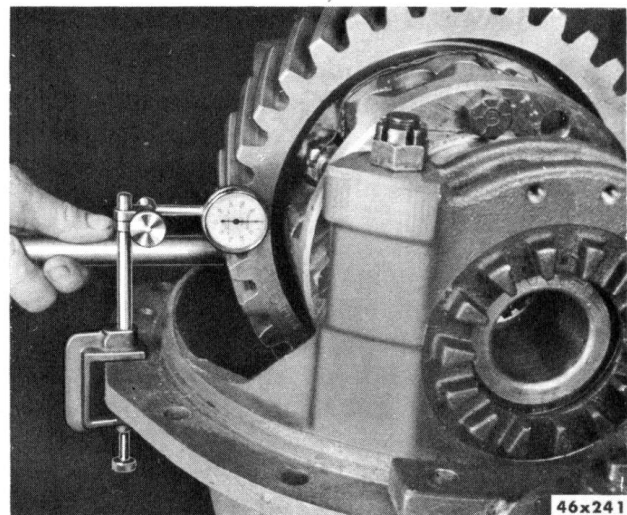

Fig. 132—Checking Spur Gear and Differential Assembly End Play
- (5) Install flat washers (where used) and stud nuts.
- (6) Tighten snugly. Then, back off nuts sufficiently to turn bearing adjusting nuts.
- (7) Align spur gear with spur pinion by moving differential assembly with adjusting nuts.
- (8) Using dial indicator at side face of spur gear (Fig. 132), adjust differential assembly to zero end play in the differential bearings.
- (9) Rotate assembly several revolutions to assure normal bearing contact.
- (10) Recheck differential end play and readjust to zero if necessary.